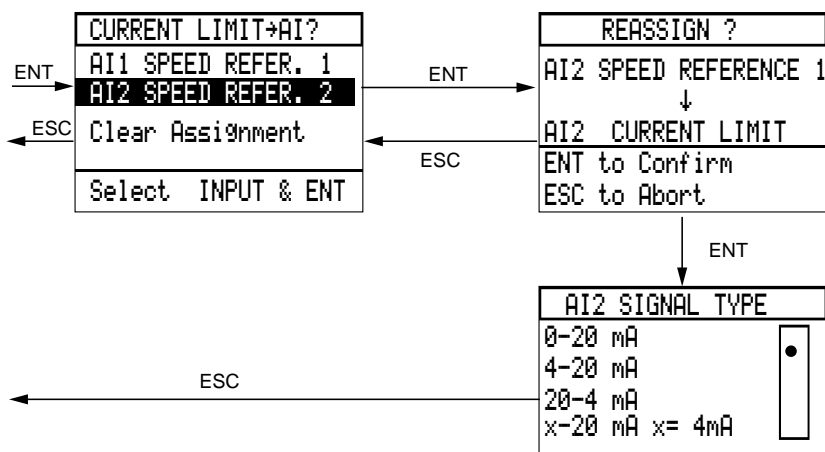

Figure 22: Reassigning Analog Inputs
- **Analog Input:** assign an analog input to Current Limit (see Figure 22 for procedure). The set current limit is ignored and the analog input is scaled so that the adjustment range of current limit is 40% to 150% of the drive controller current for constant torque configurations and 40% to 110% of the drive controller current for variable torque type configurations. This function could be used as a drive current reference for motor torque control.